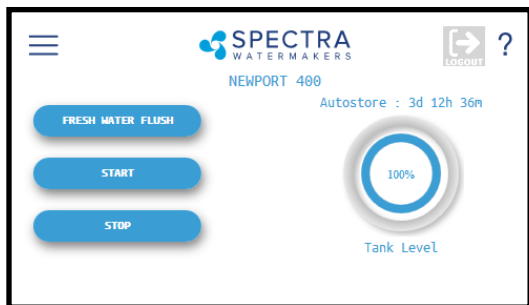

Fig. 1
2. Follow the steps in Figures 1—4 below to initiate the Calibration Sequence.